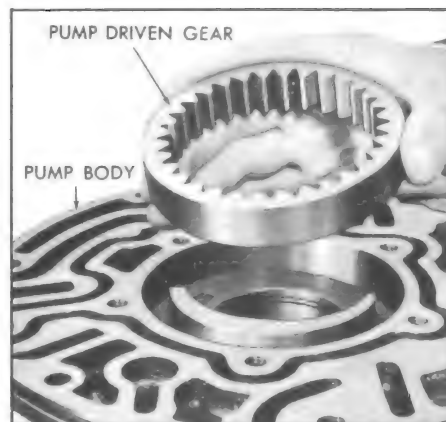

Figure 5-585A
14. Remove driven gear from pump body. See Figure 5-585A.